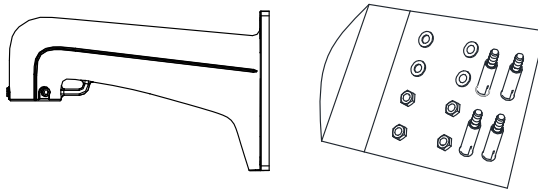

Figure 3-4 Bracket and Accessories
- The bracket in Figure 3-4 is the recommended bracket for this series of speed dome, and a pendant adapter is required if any other bracket is selected. The dimension of pendant adapter is $G1\frac{1}{2}$.
- The bracket in Figure 3-4 is the recommended bracket for this series of speed dome, and a pendant adapter is required if any other bracket is selected.